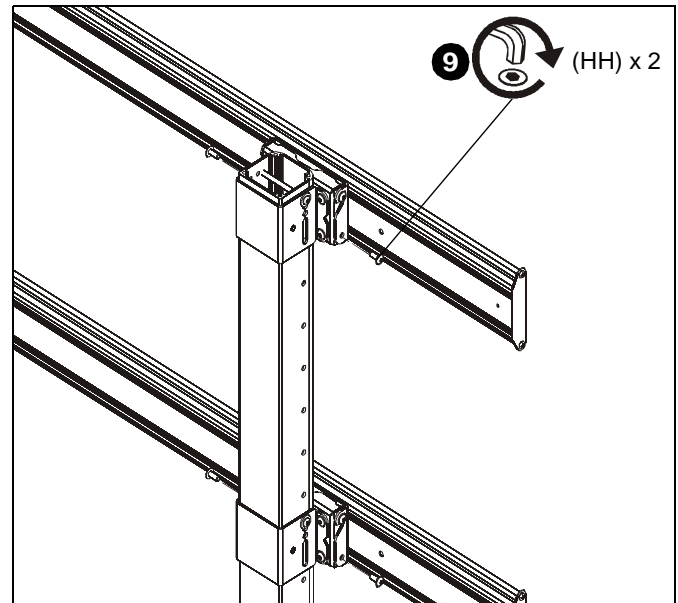

Figure 13
9. Install two 5/16-18 x 3/4" button head flange screws (HH) into the lower holes on each quick connect base (Q) to secure rails to quick connect bases. (See Figure 13)
10. Tighten all 5/16-18 x 3/4" button head flange screws (HH).